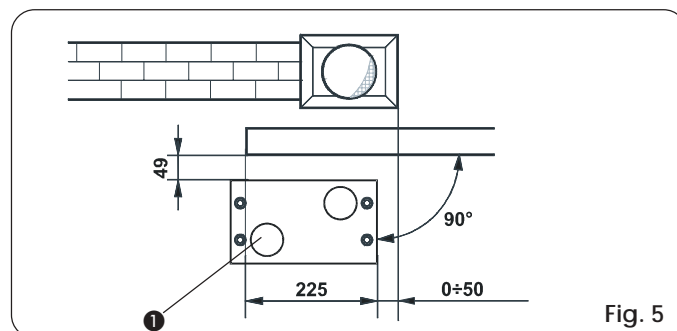
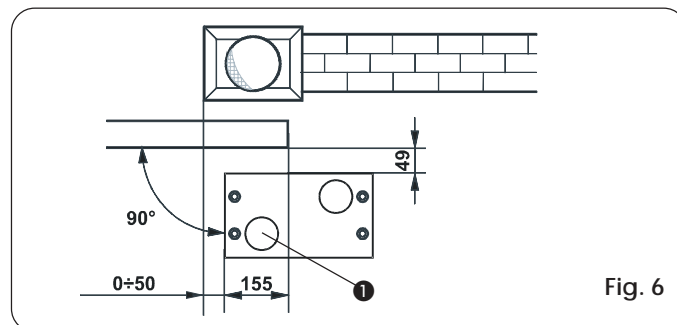

Fig. 5
Fig. 6
- 2) The foundation plate must be positioned as in Fig. 5 (right-hand closure) or Fig. 6 (left-hand closure) to ensure the rack and pinion mesh correctly.